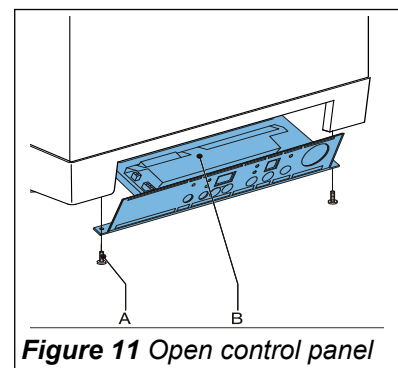

Figure 11 Open control panel
1. Unscrew the screws (A) in order to gain access to the space of the appliance controller (B). Refer to Figure 11.